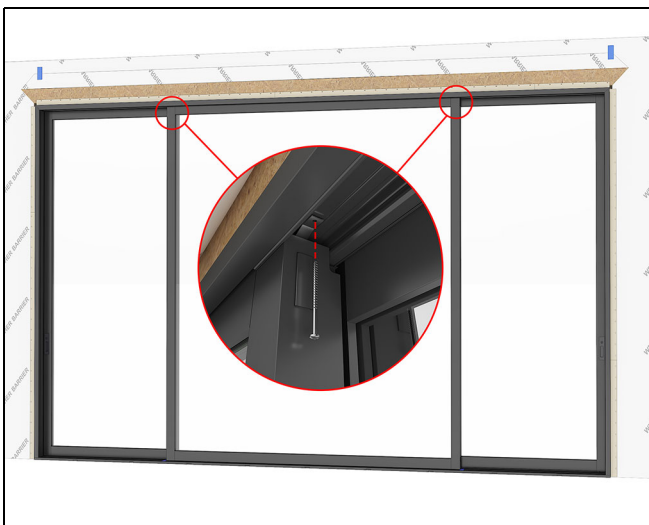

Figure 155 XOX
8. Bend the top stationary brackets of the (K) stationary panel up against the head jamb, pre-drill a 3/16" hole using the bracket as a template. Fasten through the brackets into the head jamb with #10 x 3" installation screws. Shim as needed taking care not to bow the head jamb. See Figure 155.